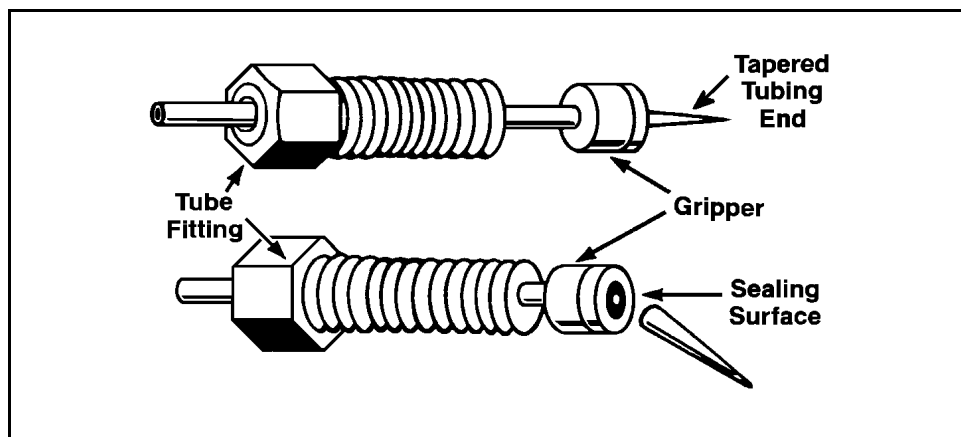

Figure 5-1. Installing a Tube Fitting
4. Slide a new gripper (P/N 030509), stainless steel side first, over the tapered end of the tubing. Grasp the emerging end of the tubing with pliers and pull the fitting and gripper onto the full diameter of the tubing (Figure 5-1).